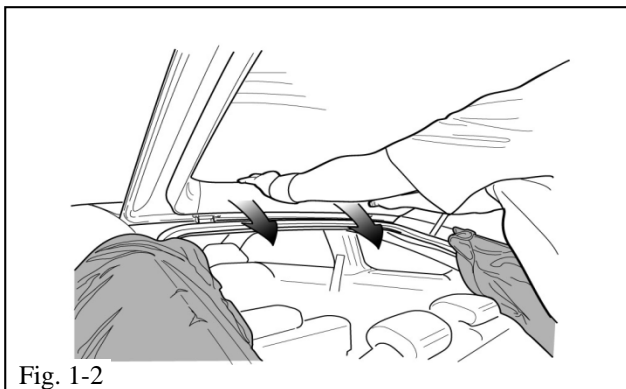

Fig. 1-2
- (c) Remove the trim panel across the inside of the lift gate window (Fig. 1-2).